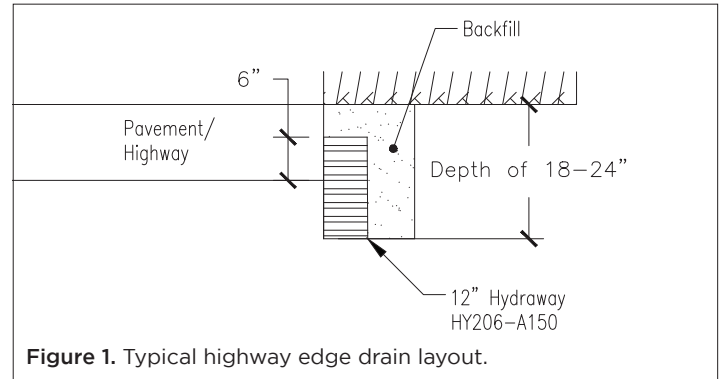

Figure 1. Typical highway edge drain layout.
- For a highway edge drain, 12- or 18-inch Hydraway is installed to a depth so that the top of Hydraway is 6 inches above the invert of the bottom of the concrete (See Figure 1).